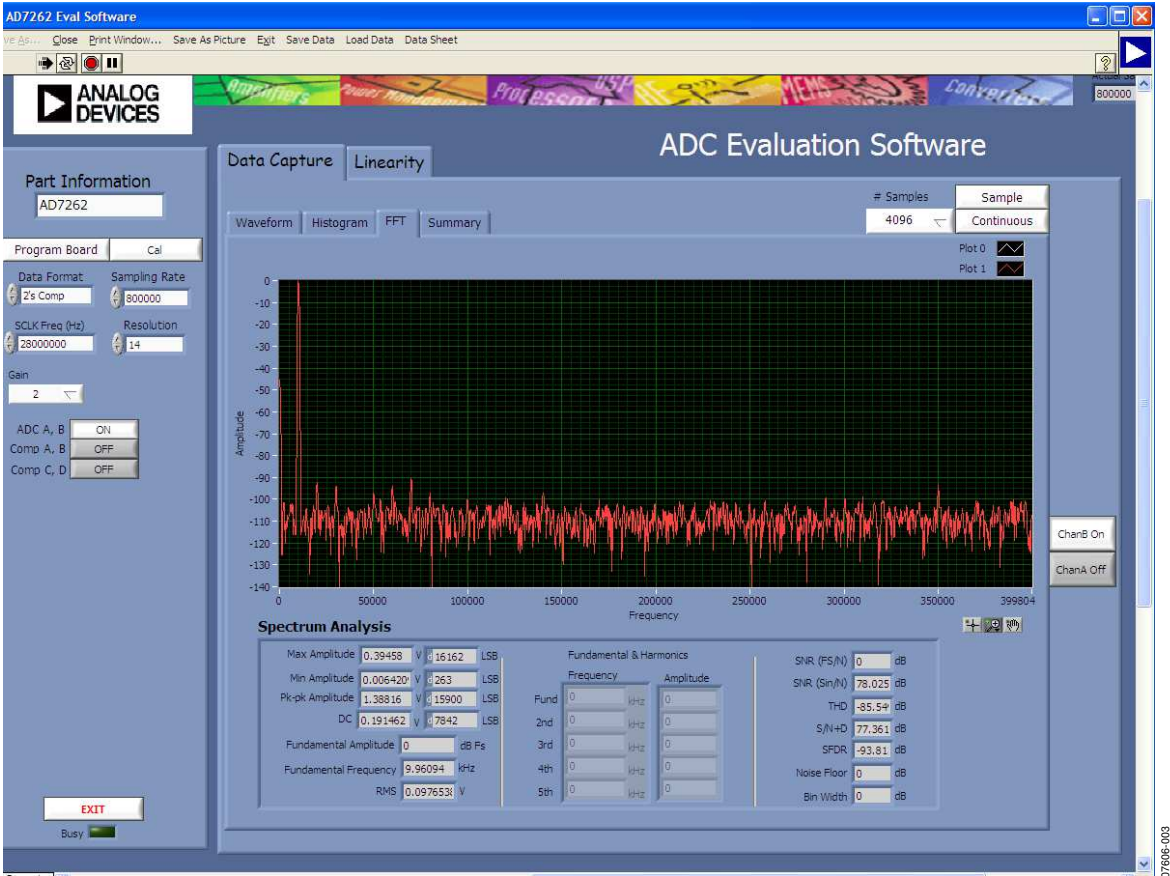

Figure 3. AD7262 Main Window
2. Click the **AD7274/AD7262 icon**. Figure 3 displays the main window that is opened.
The software that controls the EVAL-CED1Z and, therefore, the AD7262/AD7264 evaluation board, has two main windows. Figure 3 shows the window that appears when the software is run. The main function of this window is to allow you to read a predetermined number of samples from the evaluation board and display them in both the time and frequency domain. The top portion of the screen contains the menu bar and the screen can be divided into three main sections: **Part Information**, **Data Capture**, and **Linearity**. The **Data Capture** tab consists of four subtabs: **Waveform**, **Histogram**, **FFT**, and **Summary**. The **Linearity** tab enables you to generate a linearity plot for the device.
The FFT tab displays an fast Fourier transform (FFT) plot. The FFT is typically used for examining the performance of the ADC in the frequency domain. The **Spectrum Analysis** section contains information about the samples taken, such as ac specifications (see Figure 3).